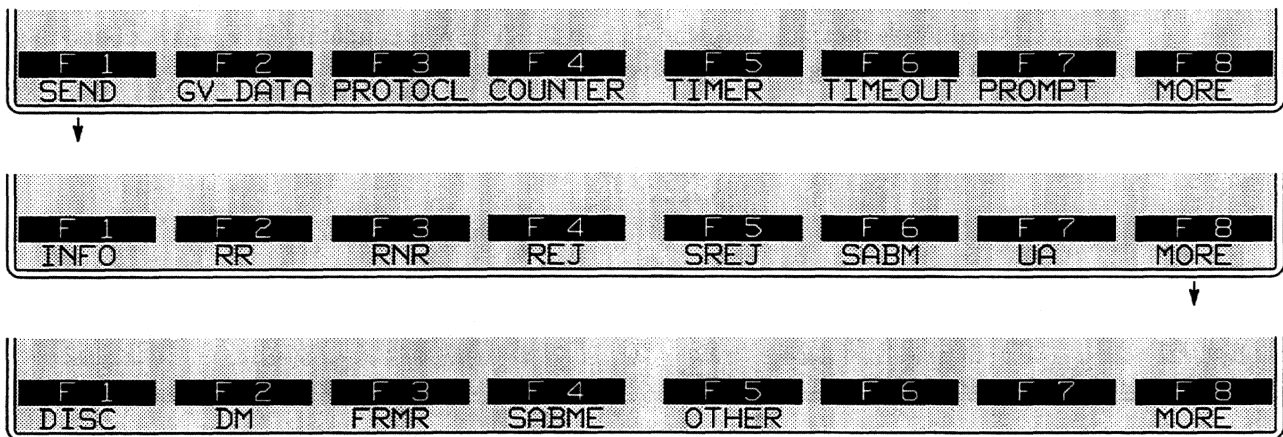
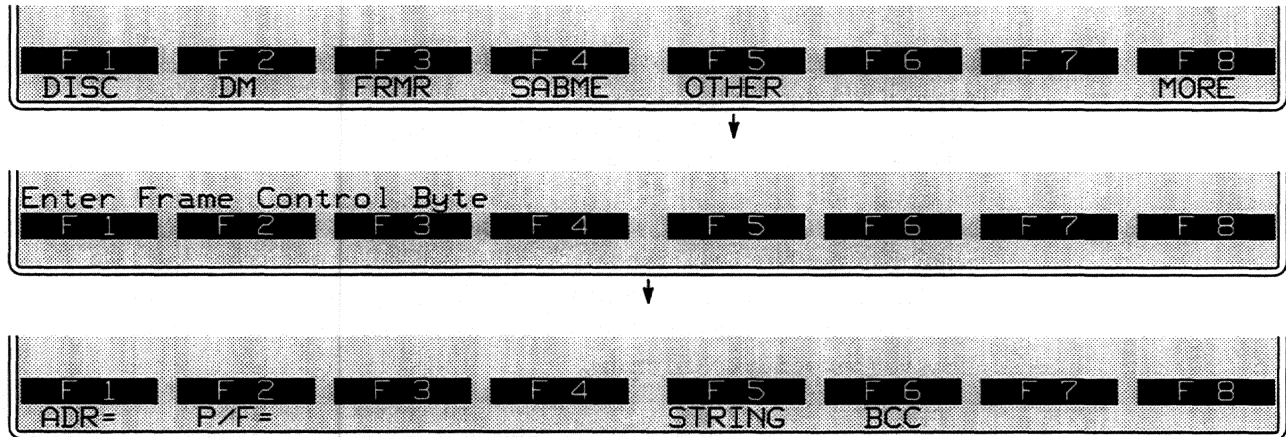

Figure 37-20 SEND actions always specify a frame type.
Figure 37-22 *SEND OTHER* actions always specify a *type* value.
Press the softkey for **SEND** to access two racks of softkeys with names of frame types that may be named in **SEND** actions. All data generated by the Layer 2 X.25 package must be enclosed in a frame that is identified in a **SEND** action by *type*. (Only at Layer 1 can data be generated as a simple character string without any protocol building blocks.) The complete set of frame types is given in Figure 37-20.
4. *Other frames.* Any frame type may be entered in a SEND action as a hexadecimal value instead of by name. Press the softkey for OTHER, on the bottom rack in Figure 37-20. Enter the hex value in the form of two alphanumerics. Then press the softkey for ADR= (Figure 37-22) and enter an address value. Here is a DISconnect command entered as a SEND OTHER action: